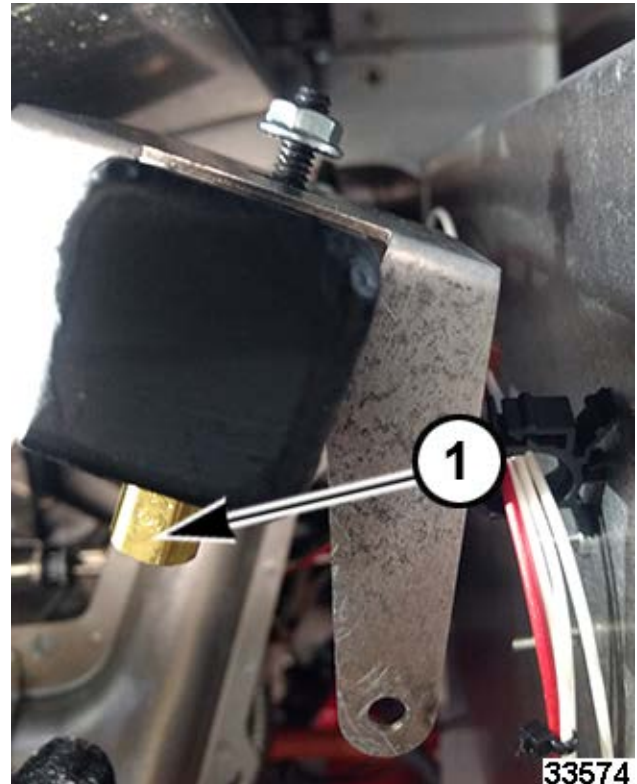

Fig. 27
3. Remove orifice (1, Fig. 27).